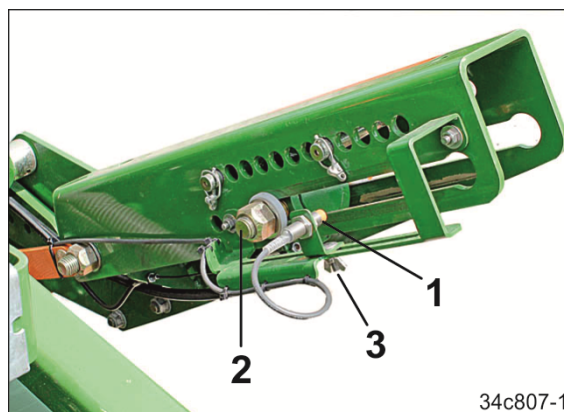

Fig. 158
4. Set the adjustable sensor (Fig. 158/1) flush with the bolt (Fig. 158/2) of the extended piston rod.
5. Tighten the thumb nut (Fig. 158/3).